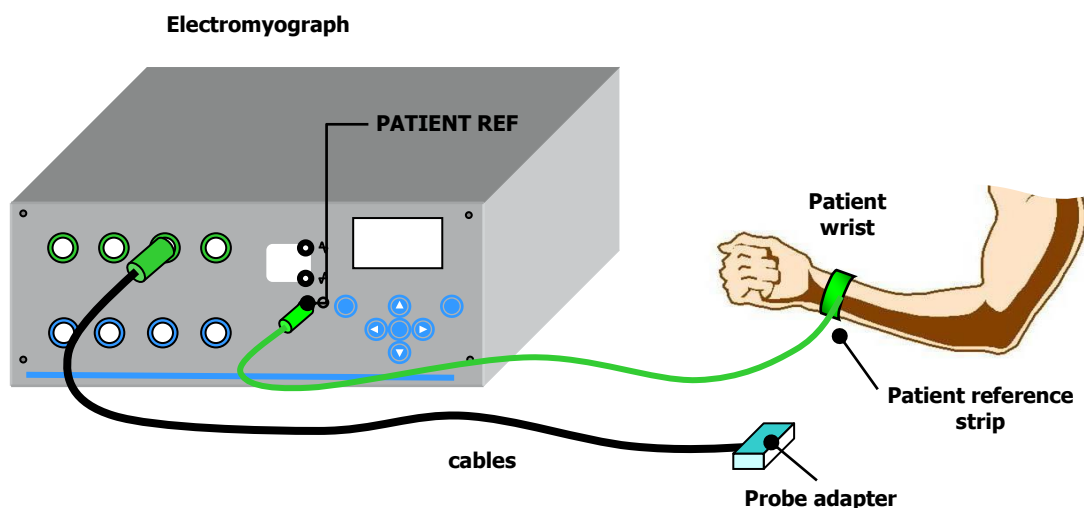

FIG. 7: Patient connection diagram for signal acquisition in single differential mode (**Mode: Differential**)
- Connect a patient ground strip to **PATIENT REF** plug with the enclosed cable. The strip has to be wet with water to assure a good electric contact with the patient and has to be connected on a point without any myoelectric activity (e.g. the ankle or the wrist, FIG. 7).